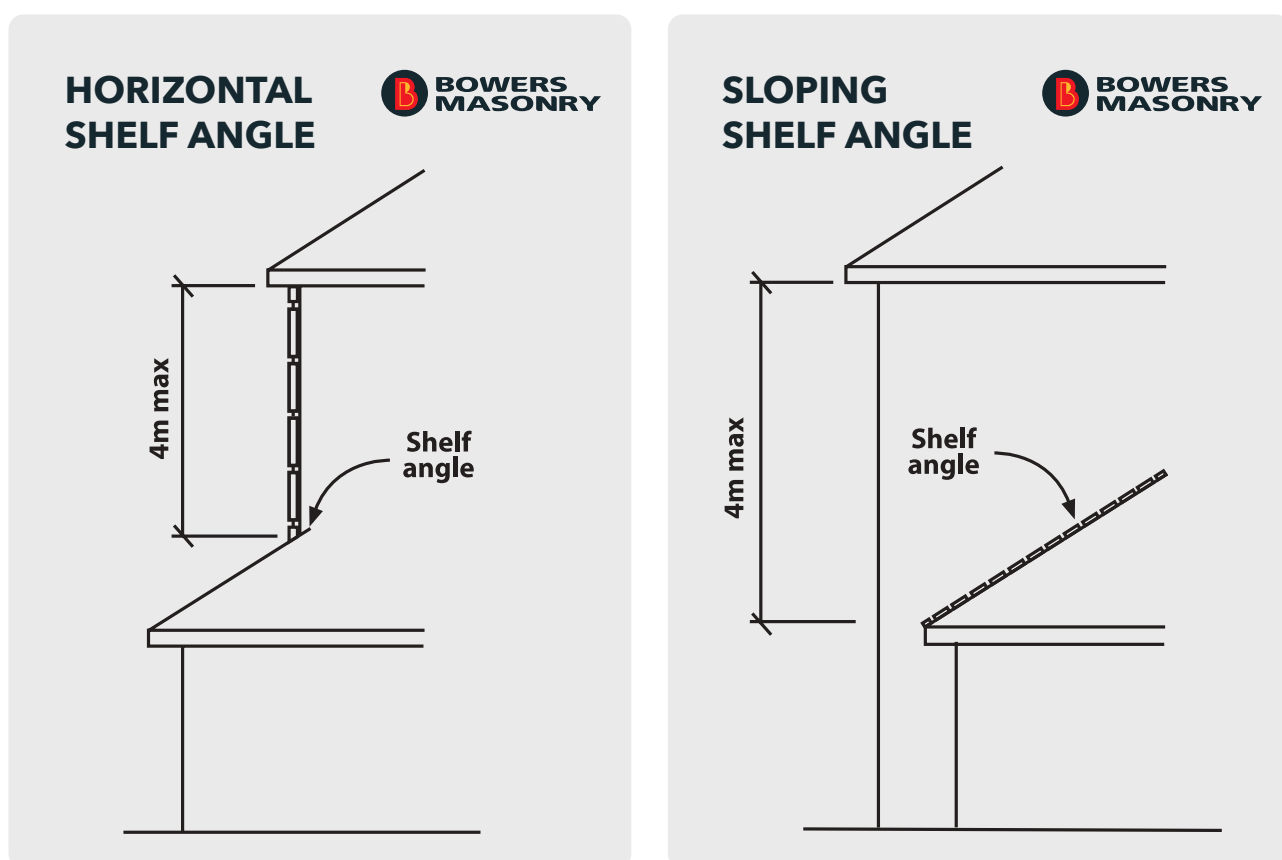

Figure 3 – Shelf Angles - diagram sourced from Brick & Paver Manufacturers association
- The maximum veneer panel height above a shelf angle over a skirt roof is to be 4m, measured as shown in Figure 3 below.